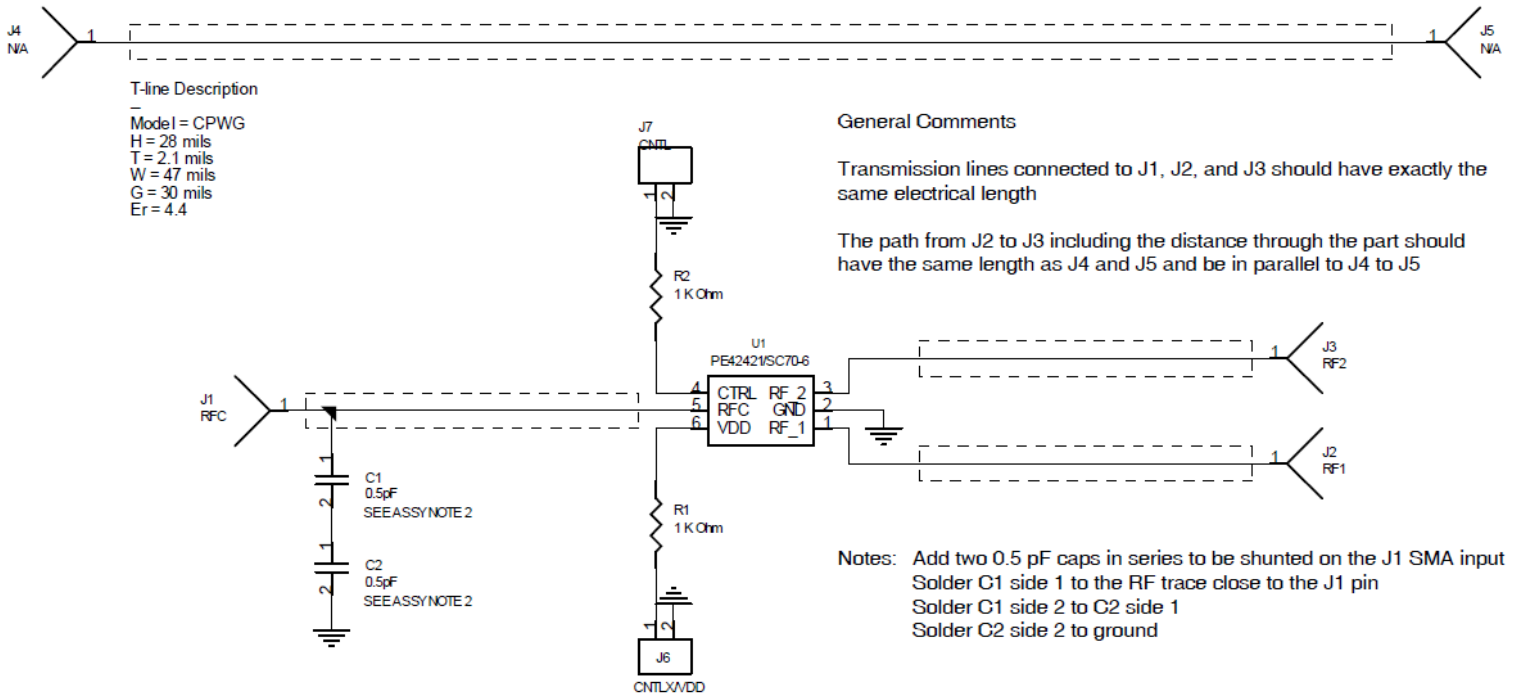

Figure 12. Evaluation board schematic
2. To optimize the insertion loss and return loss performance, add a tuning capacitor to the application board, as shown in Figure 12.